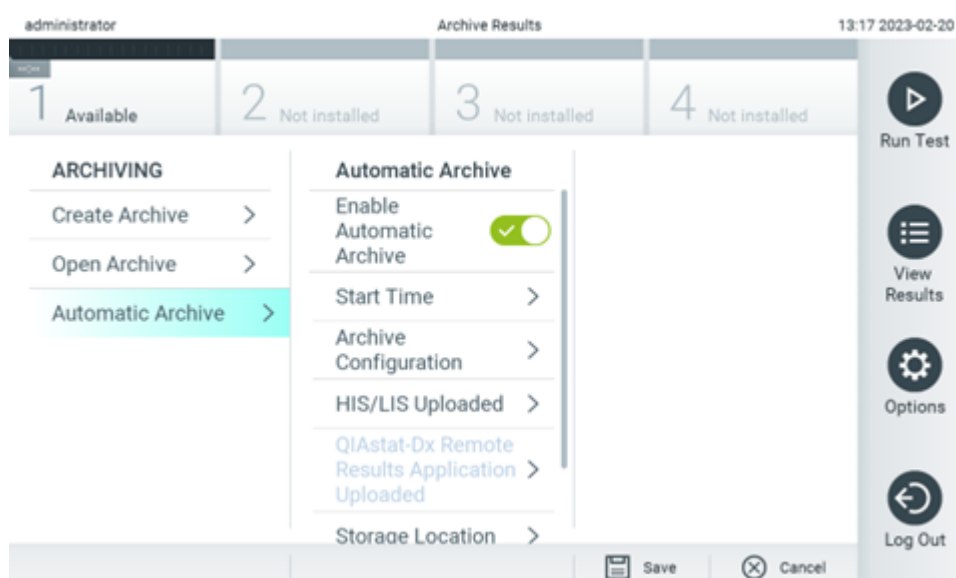

Figure 84. Automatic archive options.
2. Press **Automatic Archive** and turn on **Enable Automatic Archive** (Figure 84).